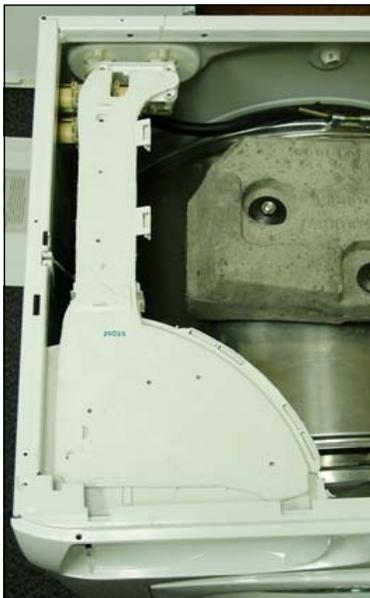

Fig. 6-4
- With the Door Boot unseated from the door opening remove the Top Panel as described in Section 2. For easier access to the Door Boot Clamp Bolt (Fig. 6-5) remove the Soap Dispenser Housing (Fig. 6-4) as described in Sections 3 and 8. Loosen the Door Boot Clamp Bolt using an 8mm Nut Driver (Fig. 6-6), but do not loosen completely. With the Door Boot Clamp loose you can now remove the Door Boot.